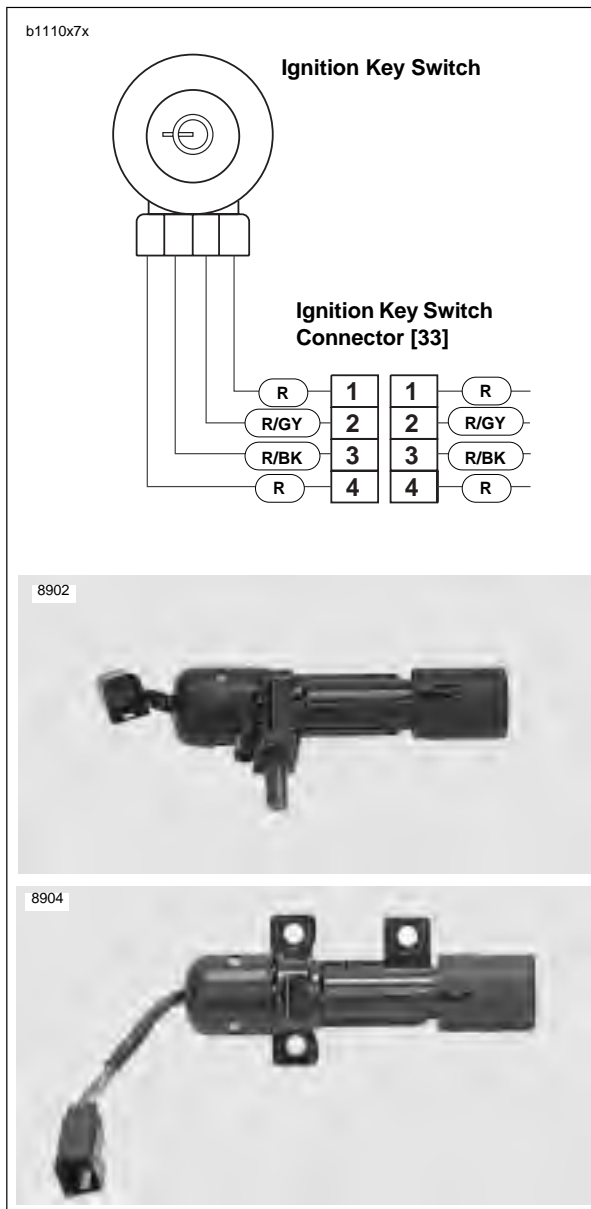

Figure 7-7. Ignition Key Switch Wiring
4. See Figure 7-7. Connect ignition switch connector [33] to wiring harness.